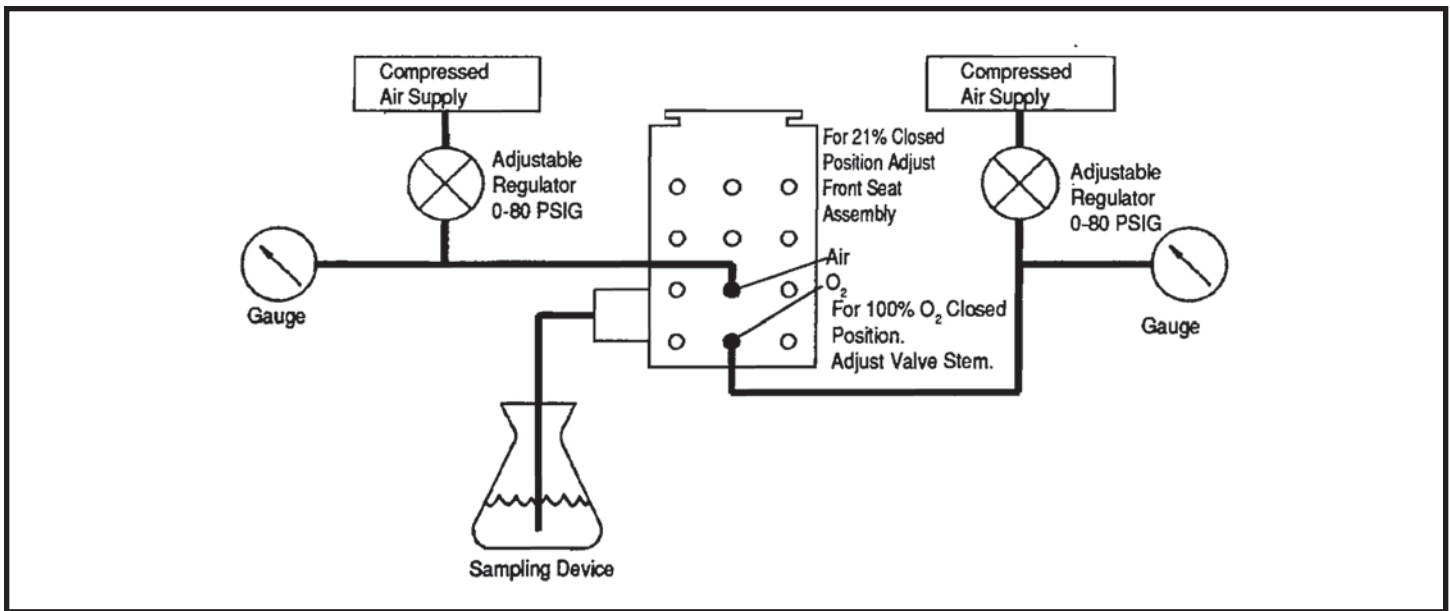

Figure 25
20.1 Connect gas supply source(s) 0 to 80 PSIG (0 to 5.62 kg/cm2) pressure regulator(s) pressure test tube(s) (P/N 10102) leak test tube (P/N 10101) and sampling beaker half way filled with water, to valve block as shown in Figure 25.